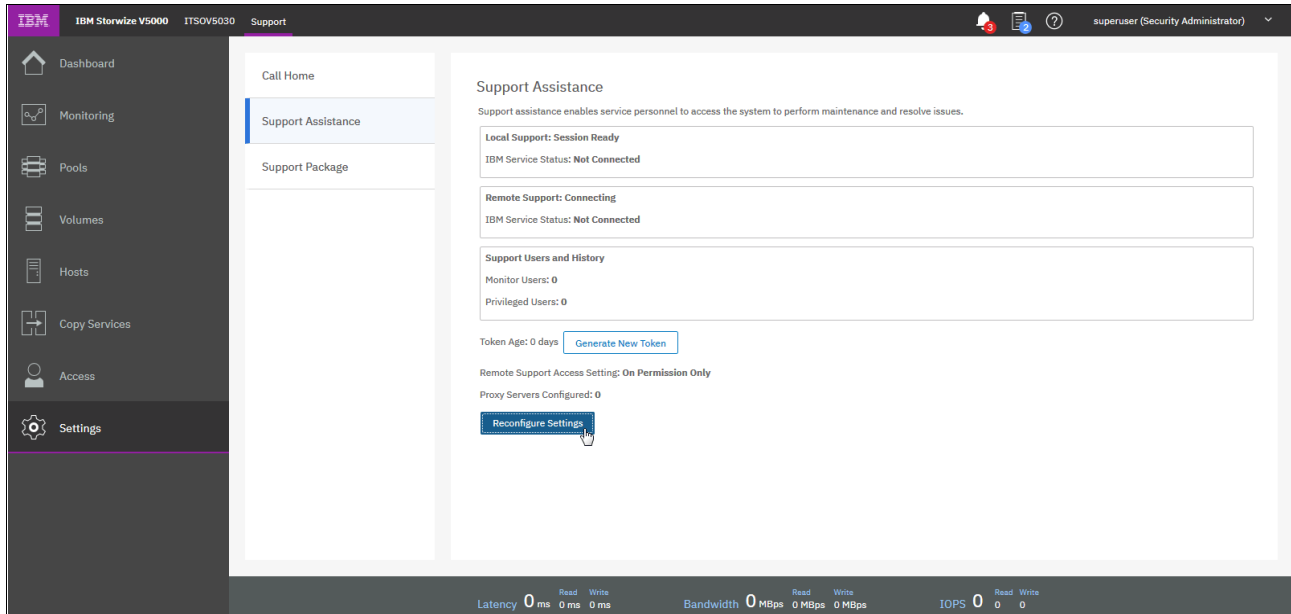

Figure 12-112 Reconfigure Settings
9. If settings change over time, you can reconfigure your settings by clicking **Reconfigure Settings**, as shown in Figure 12-112.